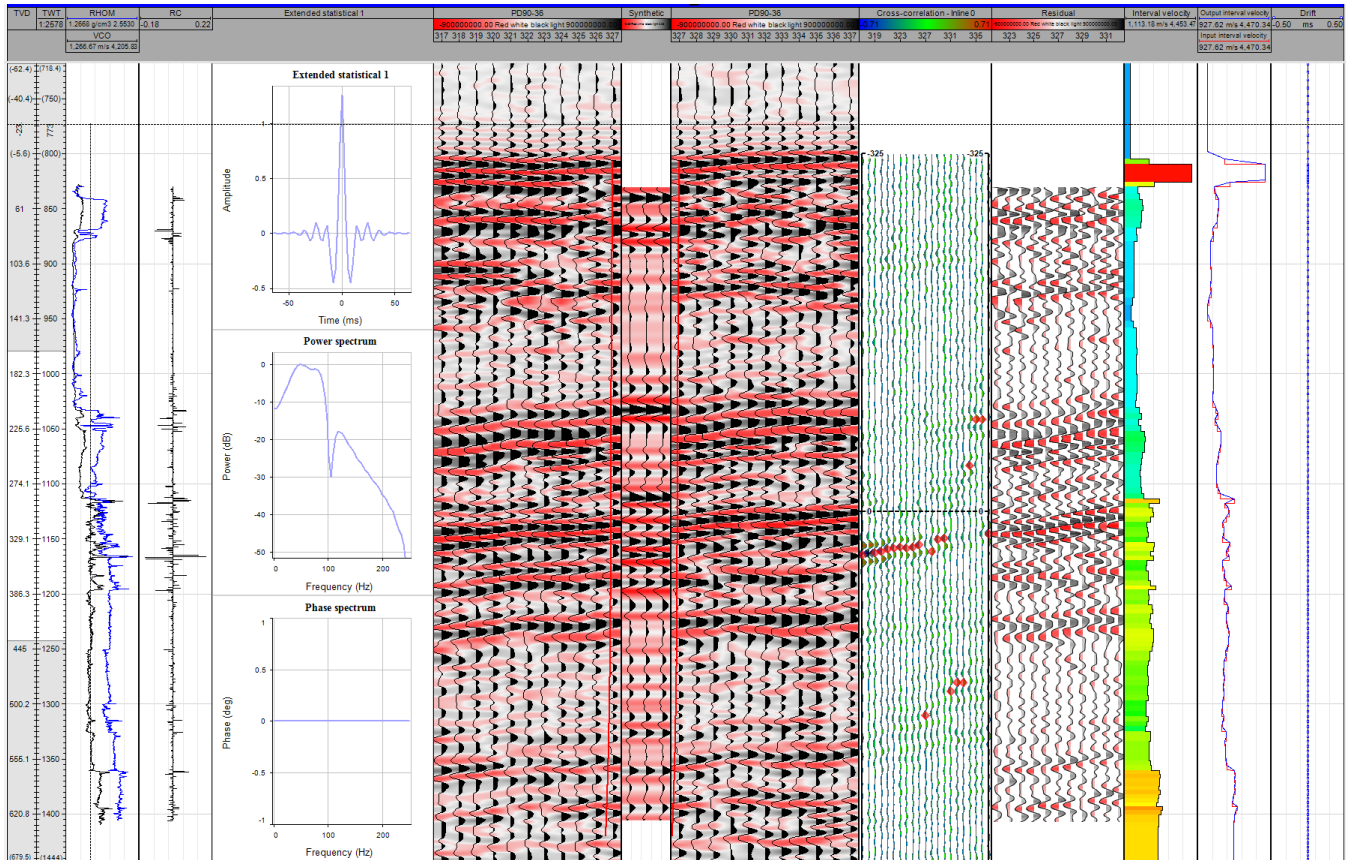

Figure 4: Initial Synthetic seismogram well section window .
4. Click the Apply button to generate a Well section window displaying the initial synthetic seismogram that is generated (Figure 4).